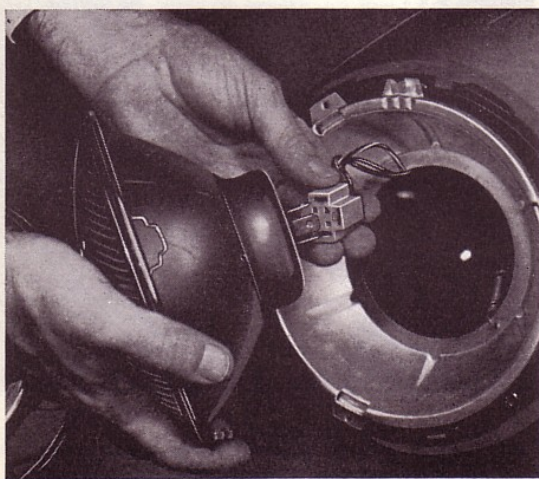

Fig. 82. Removing the connecting contact
3. Remove the connecting contact from the bulb holder by pulling it straight out as shown in Fig. 82.